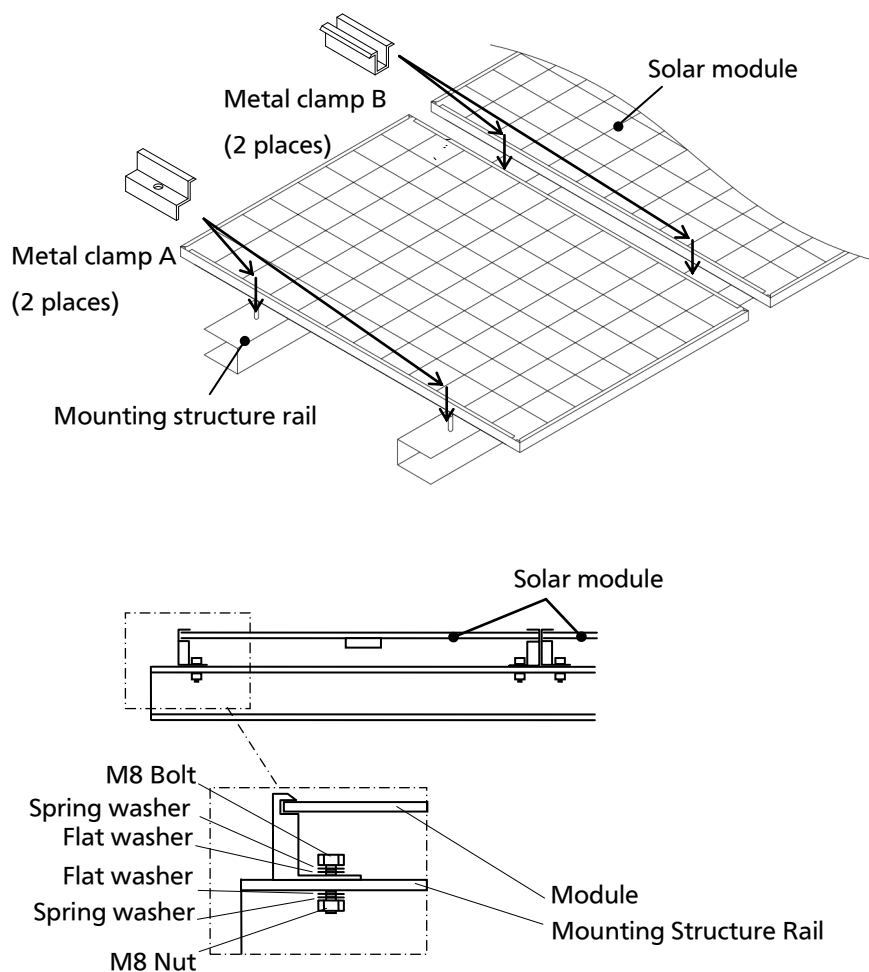

Figure 5. Module Installation
The method offers a maximum load as shown in the table "Mount location and load resistance" in Figure 1 and Figure 5 is a static state on the module surface.
- The modules should be mounted basically at the four (4) quarter points by the means shown in Figure 1, and based on installation methods shown in Figure 5.